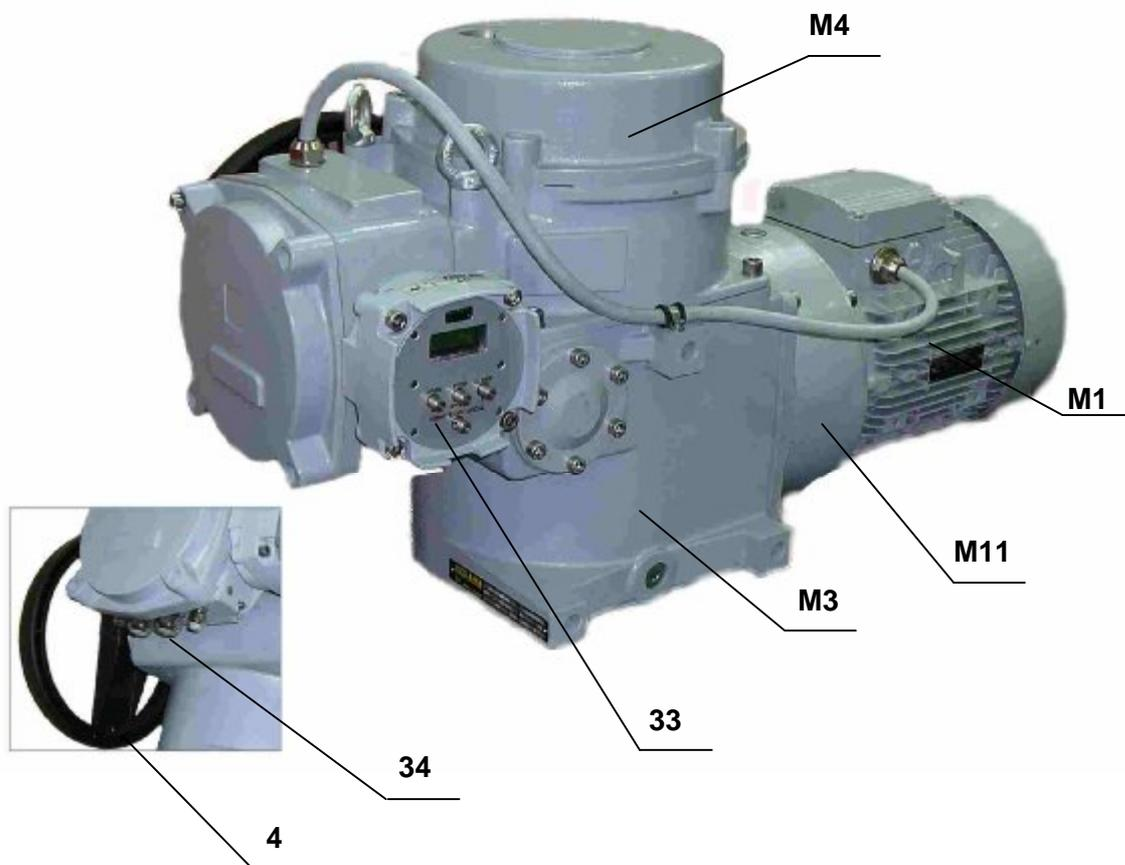
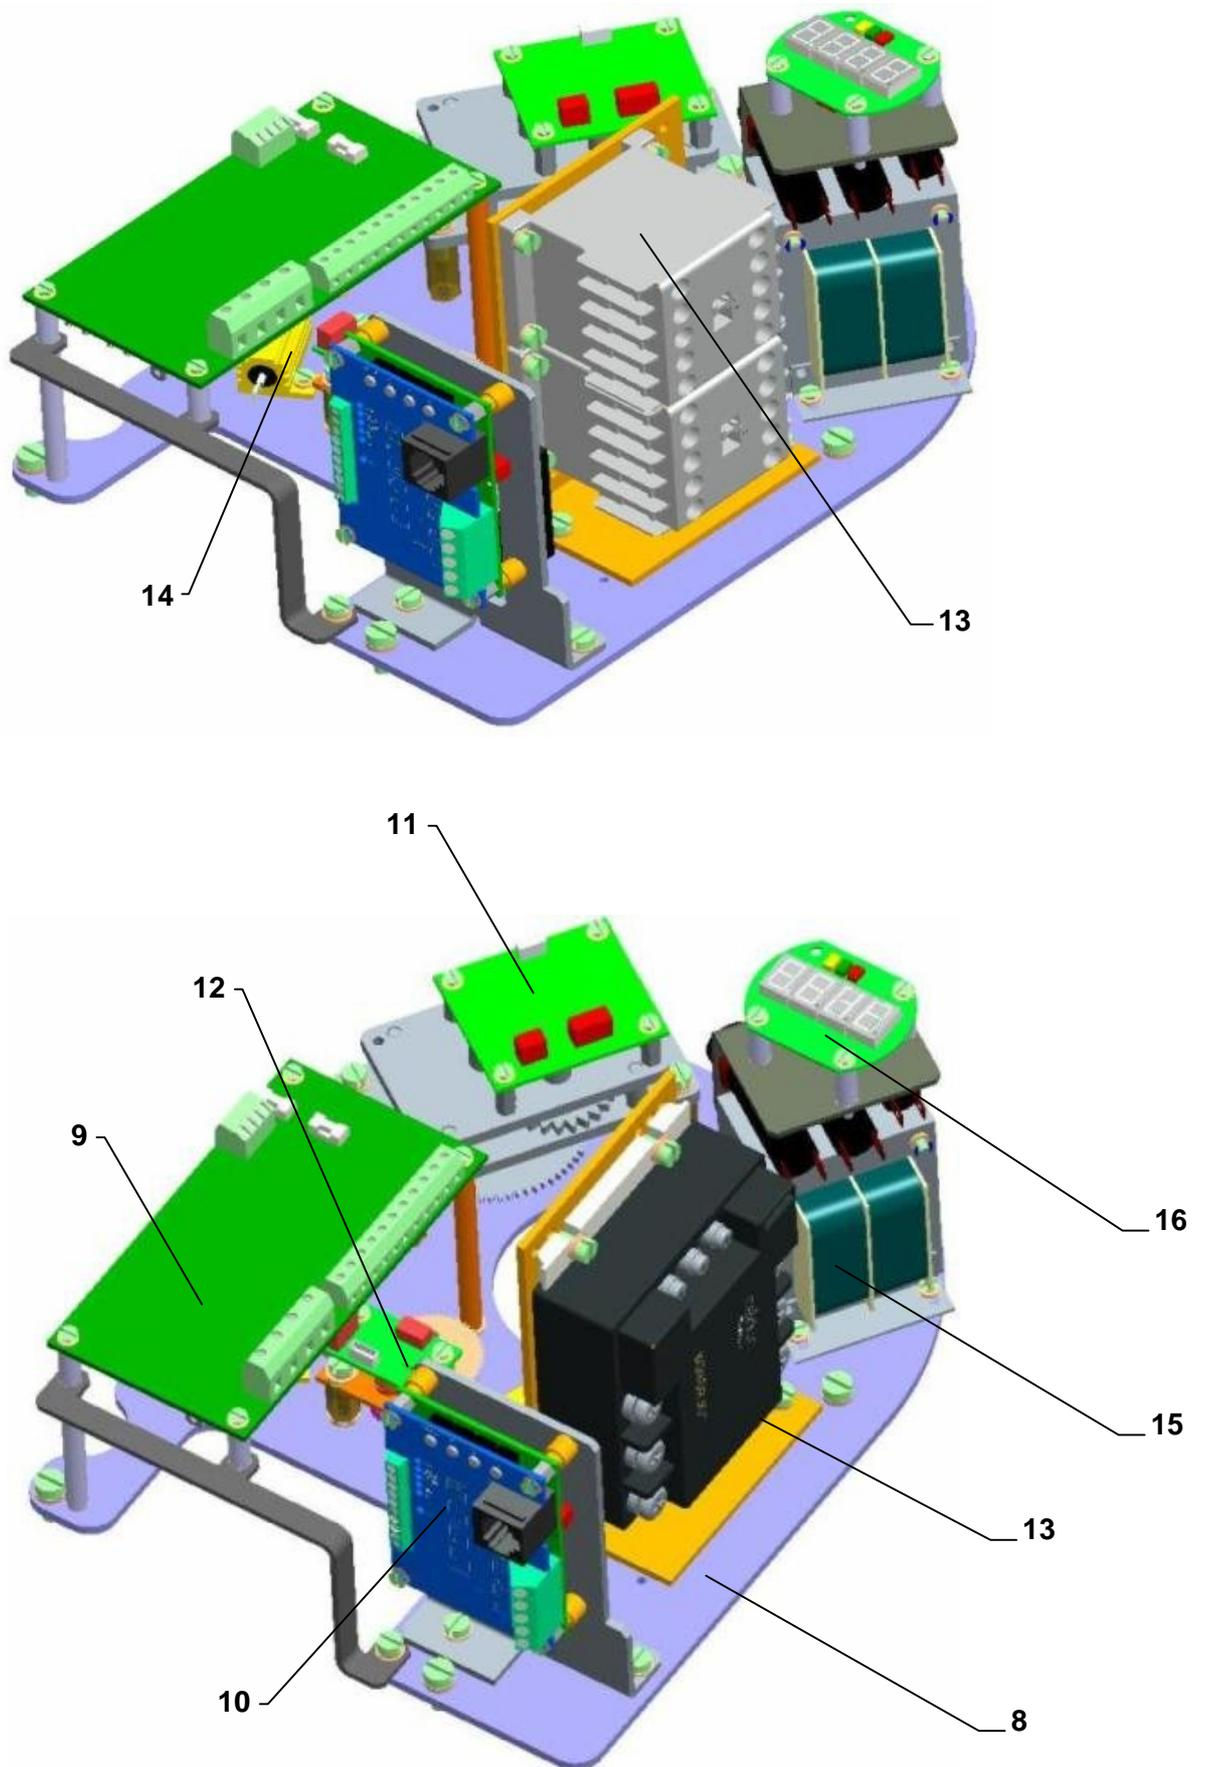

Fig.1 – MOR X.XPA
Fig.3 - MOR 3PA, MOR 3.4 PA, MOR 3.5PA, MOR 4PA
EA MOR X.XPA are of compact construction with several connected modules. They are composed of two functionally different main parts consisting of following modules (Fig.1):
#### Module M 4 – control box (Fig. 1)
The bottom part of control box closes the box of force transmission and forms carrying part of control plate Fig.3 and 3a.
The electric actuator is driven by an **electric motor (M1) (fig.1)** supplied from the **power supply board (9)** (fig.3, 3a) and **control unit (10)** (fig.3,3a) of the DMS3 electronics.
**Space heater (14)** (fig.3,3a) is placed at the mounting base (8) (fig.3,3a).
**Control unit (10)** (fig.3,3a) – main part of system DMS3 – it contains microprocessor, 6 signal LED and 4 buttons for simple adjustment and control of EA, connectors for connection of torque scanner and sourcing board and communication connector (connection to PC for adjustment and diagnostic), according to version 2 free programmable relays R1 and R 2, 1 relay READY and terminals for electric connection.
**Supply board for 3-phases version (9)** (pic. 3,3a) – is powered from the transformer (15) (pic. 3, 3a) and offers to the user output voltage 24 V DC, max. 100mA. The user relays READY, RE1 to RE5 are part of the supply board. The supply board gives the output to the space heater and also to control of reverse contactors coils eventually to the contactless motor switch. The supply board contains user terminal board and connector for wiring with control box.
**Position sensing unit (11)** (fig.3, 3a) – secures contactless magnetic position sensing of output element.
**Torque sensing unit (12)** (fig.3, 3a) – provides contactless magnetic torque reading.
**LED display (16)** (fig.3, 3a) – shows instant position of EA output member and reports and displays potential errors, which would occur when EA is operated. Signalling motion and failure of the EA is also indicated by LEDs diode. LED display is used only pro type of construction EA without local control.
**Manual control:** made up by a handwheel with a worm gearing (4) (fig.1).
- Local electric control module equipped with a 2-line LCD display (33) (fig.1) resp. (fig. 7).